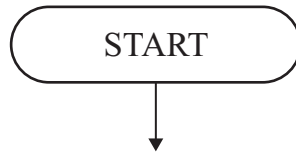

Fig. 22
- (d) (i) The disco unit is activated when the on/off switch is pressed. This turns on a motor which rotates the disco unit after a delay of three seconds. The 'LIGHTS' macro is then activated and should be performed 50 times. The motor will then switch off and the program will end. Complete the flowchart, **Fig. 22**, to illustrate this program. [10]
- (ii) Modify the program in **Fig. 22** to enable it to run continuously. [2]